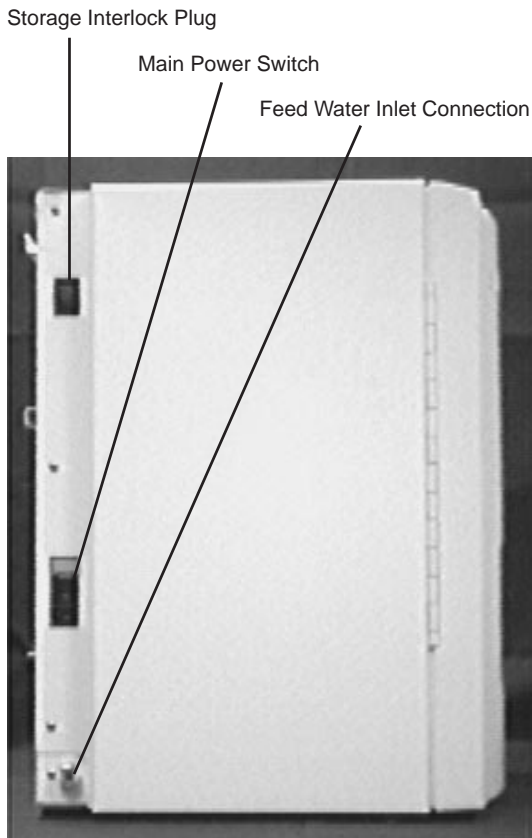

Figure 3 Feed Water Location
1. Connect water supply to unit by inserting the quick disconnect into the feed water inlet on the lower left side of the ROpure Infinity (see Figure 3). Turn the system power on by depressing the Main Power switch to the “I” position. Two LEDs (CBN and MPS) flash, testing the LEDs to make sure they are not burned out.